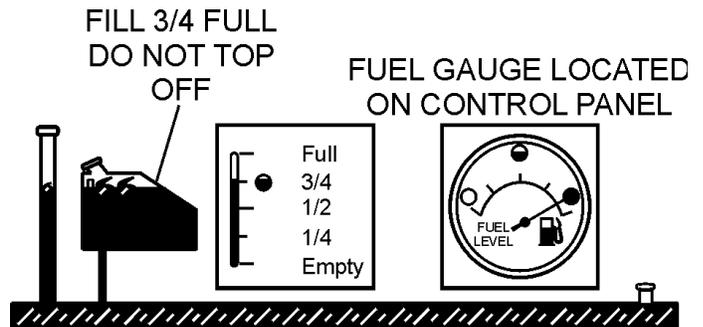

Figure 36. Full Fuel System
5. Figure 36 below reflects a full fuel system.